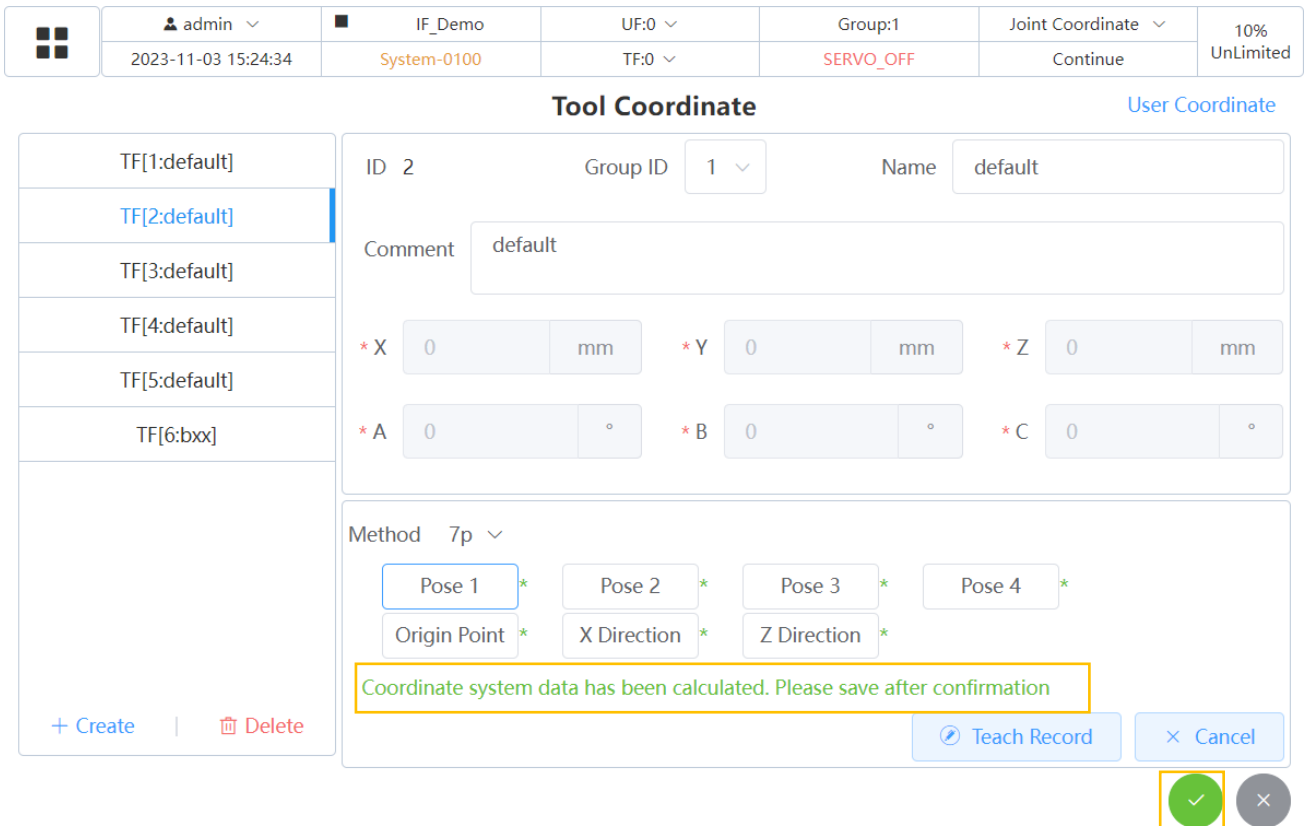
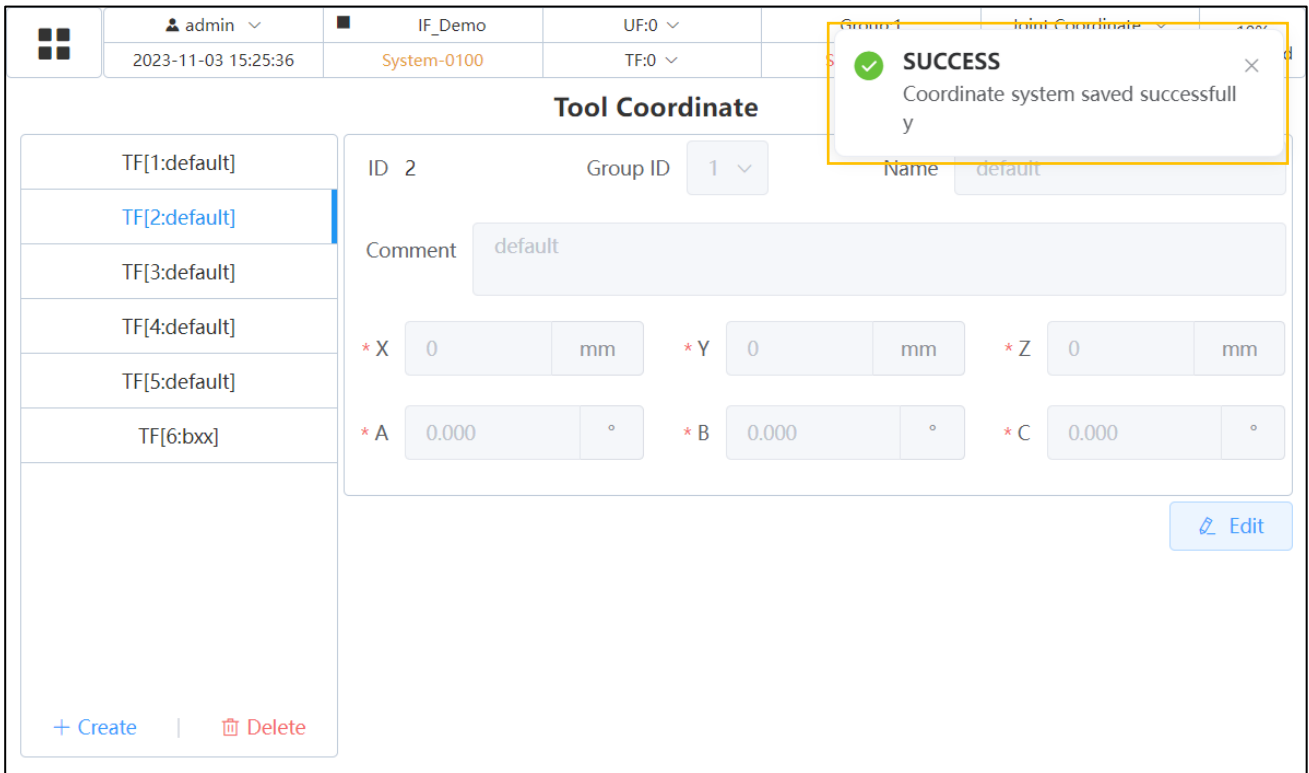

Fig. 2.17 Tool Coordinate System Setting Interface 5
Fig. 2.18 Tool Coordinate System Setting Interface 6
- After teaching of 7 poses, a prompt will be displayed stating "Coordinate system data has been calculated. Please save after confirmation". At this time, click  in Fig. 2.17, and it may prompt "Coordinate system saved successfully", as shown in Fig. 2.18. At this time, the tool coordinate system has been set.